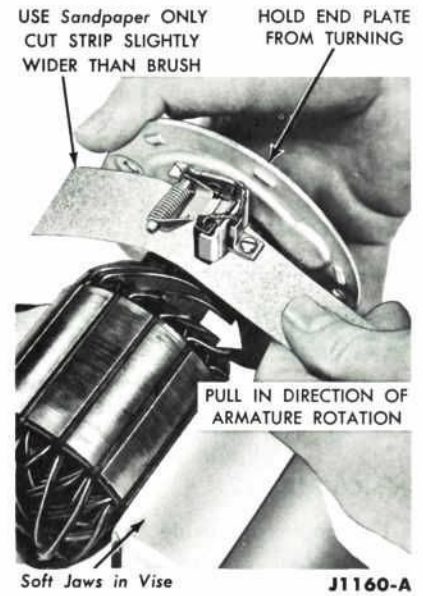

FIG. 22—Seating Generator Brushes
8. Replace the brushes if they are cracked, chipped or show excessive wear. Replace brushes less than $\frac{3}{8}$ inch long. Seat new brushes as shown in Fig. 22. Always replace brushes in pairs.